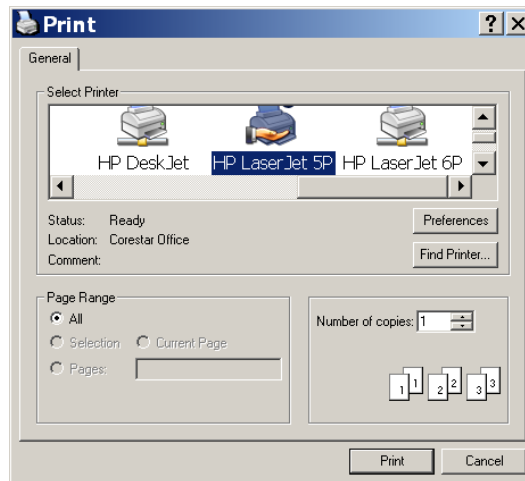

Figure 9. File | Print Setup & Print Dialog
- **File | Print Setup** displays the typical **Print** dialog shown in Figure 9. Select the desired printer and click the **Preferences** button to modify the printer's parameters as desired. Once all options are set, click **Print** for the settings to be saved as the new default **Print Setup**; otherwise, click **Cancel**.
**NOTE:** Even though the dialog in Figure 9 appears to be a typical Windows **Print** dialog, clicking **Print** will not print the current *map* since this dialog was displayed after selecting **File | Print Setup**. In this particular case, the **Print** button functions as an **OK** button.
- **File | Print Preview** displays a dialog with an approximation of what the *map* will look like when printed based on the default printer settings made using **File | Print Setup**. Clicking either **OK** or **Cancel** on the **Print Preview** dialog simply closes the dialog, while clicking the **Print** button displays a **Print** dialog like the one shown in Figure 9. You may adjust settings if desired; otherwise, click **Print** to send the *map* to the printer.
- **File | Print** (Ctrl+P) displays the **Print** dialog shown in Figure 9. You may adjust settings if desired; otherwise, click **Print** to send the *map* to the default printer.
- **File | Print Setup** displays a typical **Print** dialog (*Figure 9*). Select the desired printer and click the **Preferences** button to modify the printer's parameters as desired. Once all options are set, click **Print** for the settings to be saved as the new default **Print Setup** for printing from the **History** dialog; otherwise, click **Cancel**.